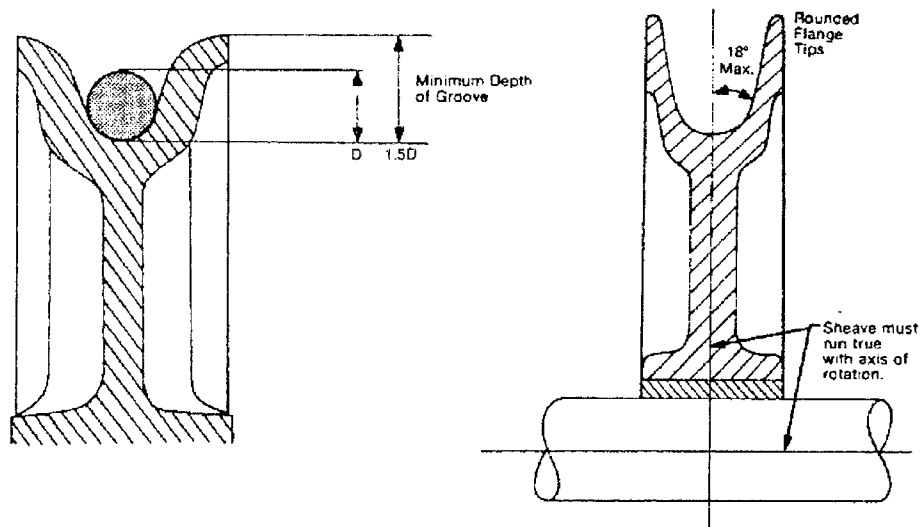

Fig. 2-18 Sheave groove dimension
- a. Grooves in sheaves should always be larger than the actual diameter of the wire. Inspect the sheaves bi-annually and each time a new wire rope is installed. The sheaves must be inspected for proper support of the rope, cracks, and scoring. The proper support is determined with a sheave gauge. Use a "no-go" sheave gauge to determine if the proper support is supplied by the sheave. Proper support range is 135 to 150 degrees of support. (See **Figure 2-18.**) If the sheave has worn too narrow for the rope, then the tension on the rope will pull the rope into the groove causing it to be pinched and subject to significant wear. If the sheave groove has become too large the rope will flatten, which causes severe bending stress and fatigue failure.